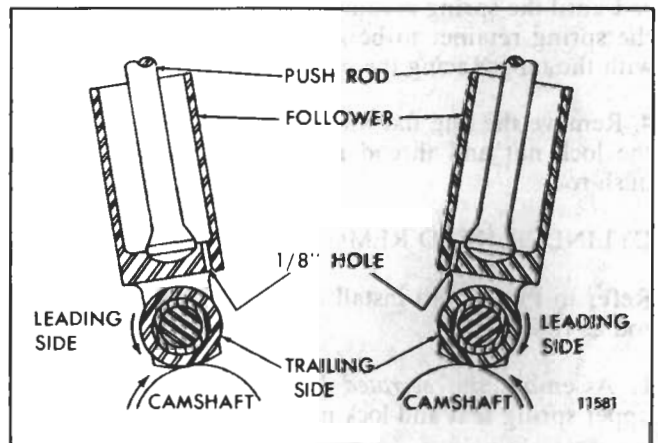

Fig. 9 - Installation of Cam Followers
1. Note the oil hole in the bottom of the cam follower. With the oil hole directed away from the exhaust valves (Fig. 9), slide the cam follower in position in the cylinder head.
3. Note the oil hole in the bottom of the cam follower. With the oil hole directed away from the exhaust valves (Fig. 9), slide the cam follower in position from the bottom of the head.